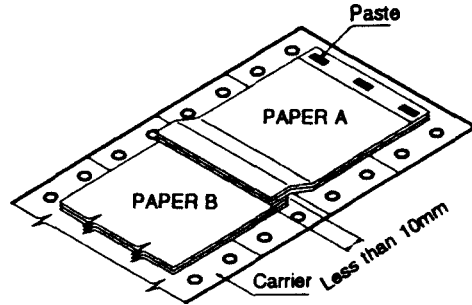

Figure 1-18. Correct Multi-part Form Binding
- 10. Overlapping multi-part forms must be bound at the top side by spot gluing. The binding must be secure and there should be no spilled glue. Figure 1-18 shows the correct multi-part form binding method.